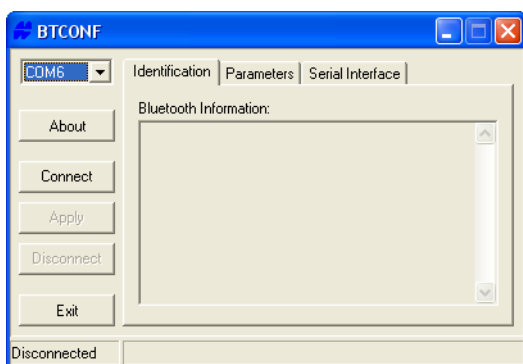

Figure 2-19. Bluetooth Module Configuration Main Screen
2. Run the Bluetooth module configuration program (Figure 2-19). For BTCONF version and copyright information, click the **About** button.